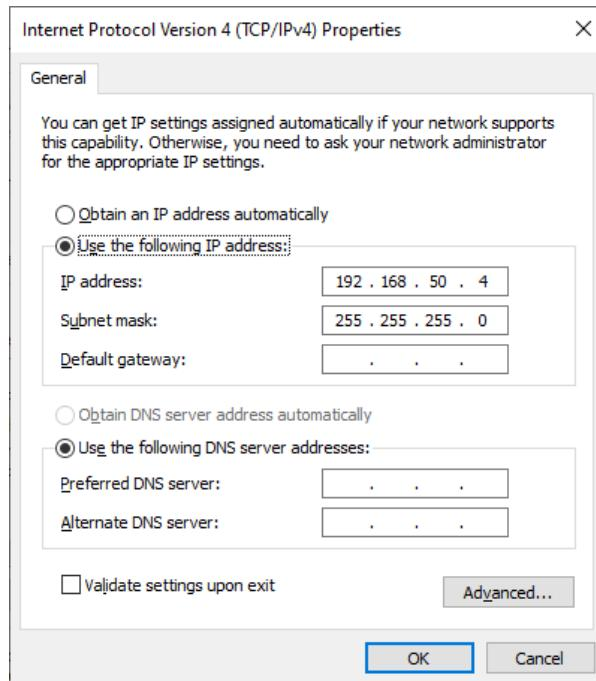

Fig. 11.5: "Internet Protocol Version (TCP/IPv4) Properties" window.
e. Copy the configuration in **Fig. 11.5** on the "Internet Protocol Version (TCP/IPv4) Properties" window and press "OK".